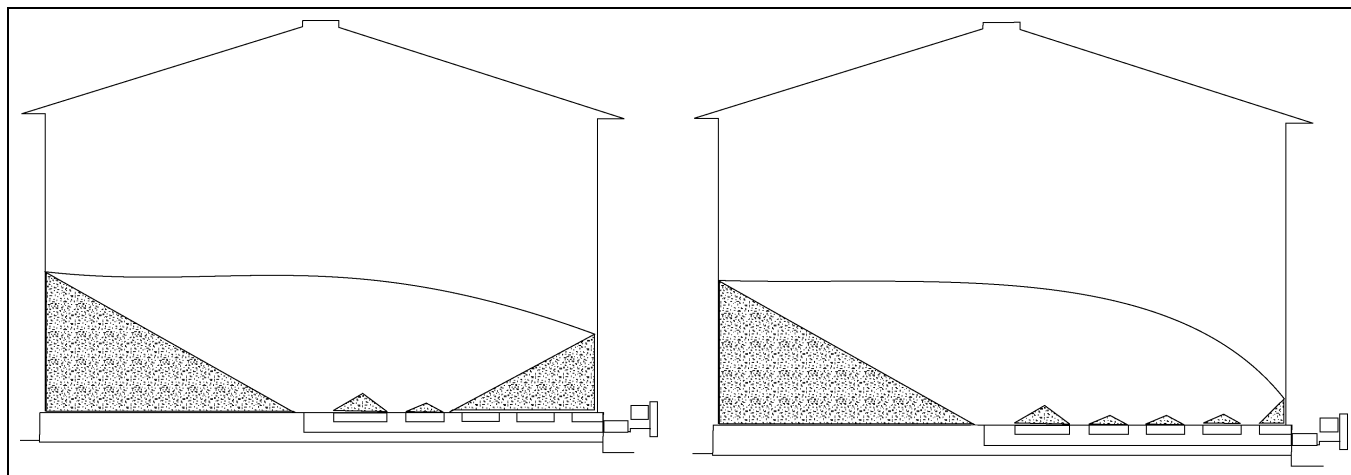

Figure 5D
2. If the bin is equipped with intermediate bin wells, open them after grain has stopped flowing into the center well and before the sweep auger is placed in the bin. Open the intermediate wells near the bin center first. Then when grain flow stops, open the wells near the bin wall. (See Figure 5D.) The Commercial Sweep Auger can then be installed. Always shut down the unloading equipment and lock out power before entering the bin.